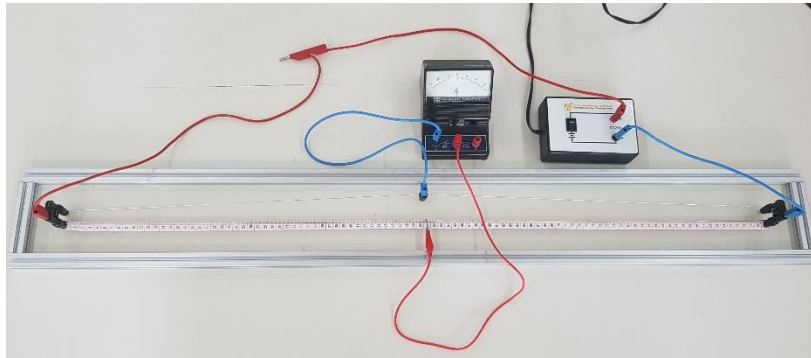

Figure 5.3
- 1) Set up the experiment as shown in figure 5.3. The value of  $R_1$  is  $220\ \Omega$  and the value of  $R_X$  is  $270\ \Omega$ .
- 2) Turn on the power supply and push the probe to make it connect to the metal wire. The galvanometer deflects at this time, move the probe to make the galvanometer reading back to zero, then measuring the length of  $AC$  and  $CB$ . Calculate  $R_X$  from the experiment using equation (6).